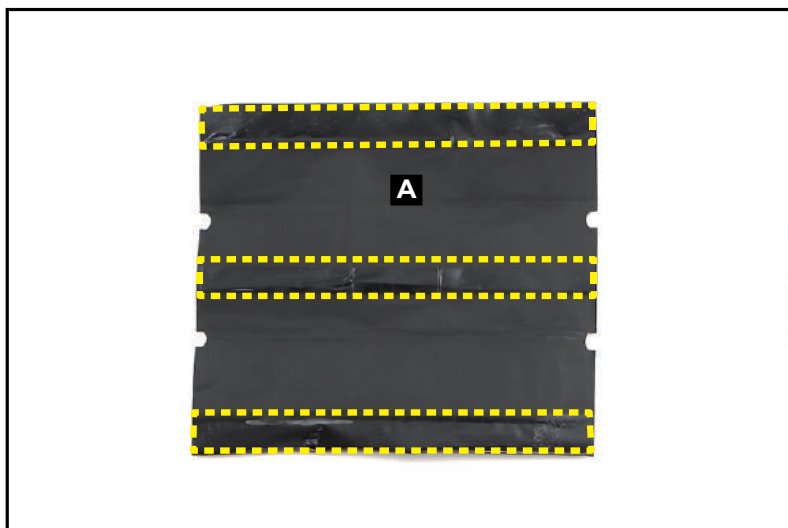

Figure 3-151. Adhesive Graphite Strips Location
The copper foil with mylar (A) includes three (3) adhesive graphite strips as shown in Figure 3-151.